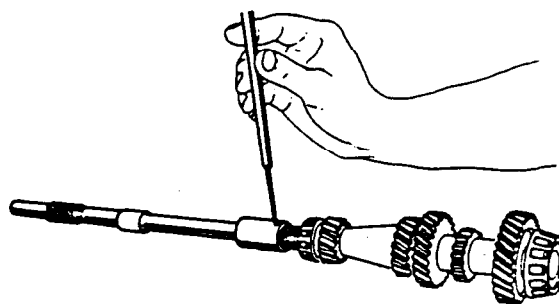

FIG 6:37 Primary shaft rollpin
- from the primary shaft by knocking out the rollpin with a drift in the manner shown in FIG 6:37.